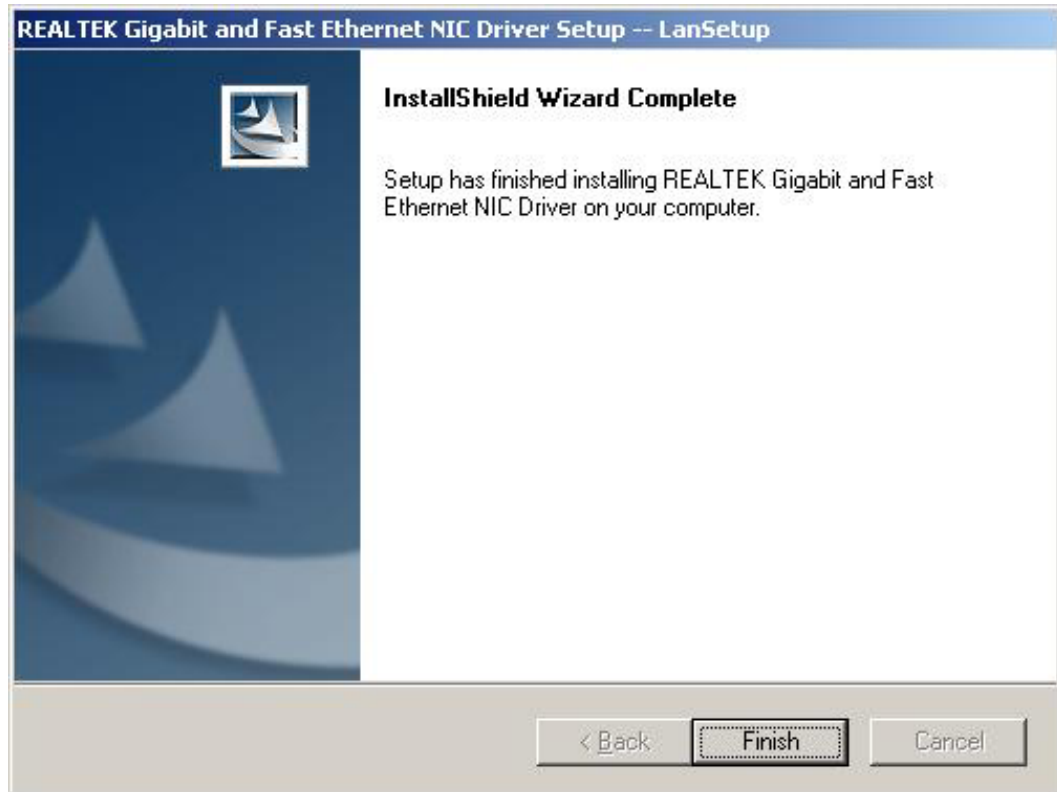

Figure 6-16: Installing Screen
- Step 9:** Once the installation is complete, the **InstallShield Wizard Complete** screen appears (**Figure 6-16**).